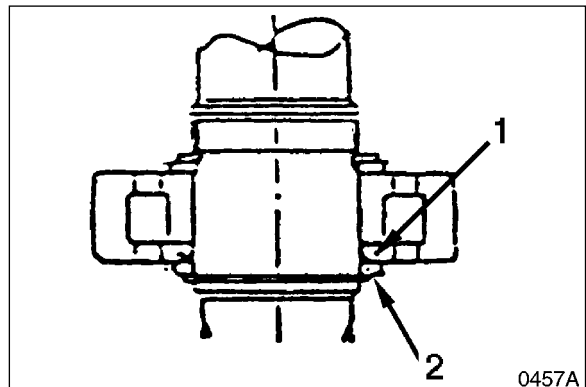

Figure 28
Make sure that bearing raceways (collars) are facing right direction. The drawing shows one side of the bearing collar (1, Figure 28), marked "R," which should be assembled next to spacer (2) on lower end of drive shaft.